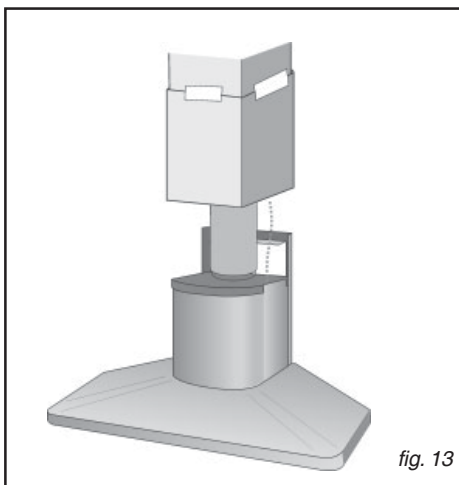

fig. 13
- Extend the lower flue taping it in place and then connect the flexible pipe to the hood reduction (fig.13).